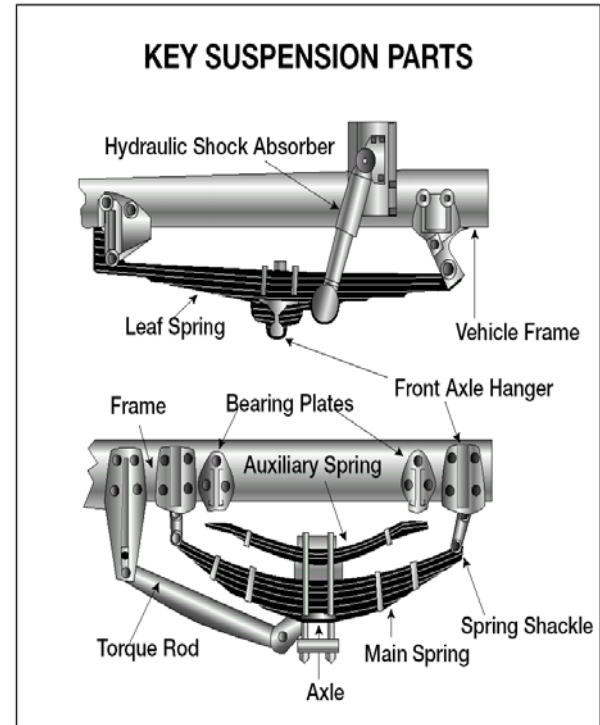

Figure 3.2
- Spring hangers that allow movement of axle from proper position. See Figure 3.2.